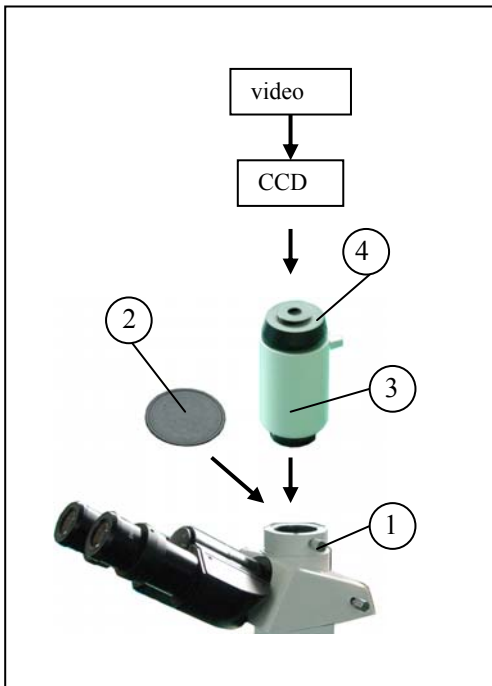

Figure 32
**6-1-2 Installing the video set (fig.32)**
1. Loosen the locking bolt① on the trinocular viewing tube, and take out the dust cap②.
2. Remove the dust cover on the both ends of the video accessories③, and revolve the screw head end into the CCD/CMOS port.
3. Install the accessories into the tri-through port, and screw down the bolt①.
**6-1-3 Focus (fig.32)**